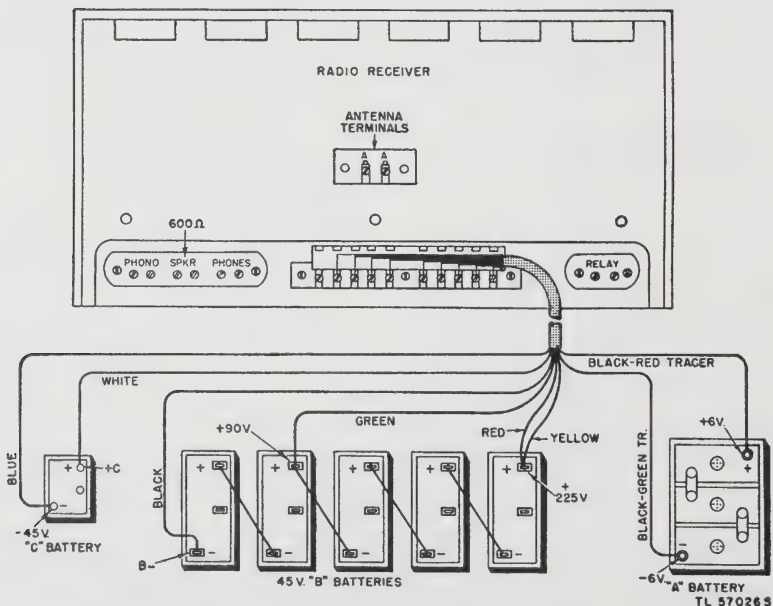

Figure 11. Cable connections for battery operation.
(1) Connect the battery cable to the receiver *first* and then replace the terminal cover before connecting the cable to the batteries.
(2) Connect the eight loose wires to the batteries according to the color code shown in figure 11.
(3) When discontinuing battery operation, disconnect the loose ends of the cable from the batteries *before* detaching the cable from the receiver.